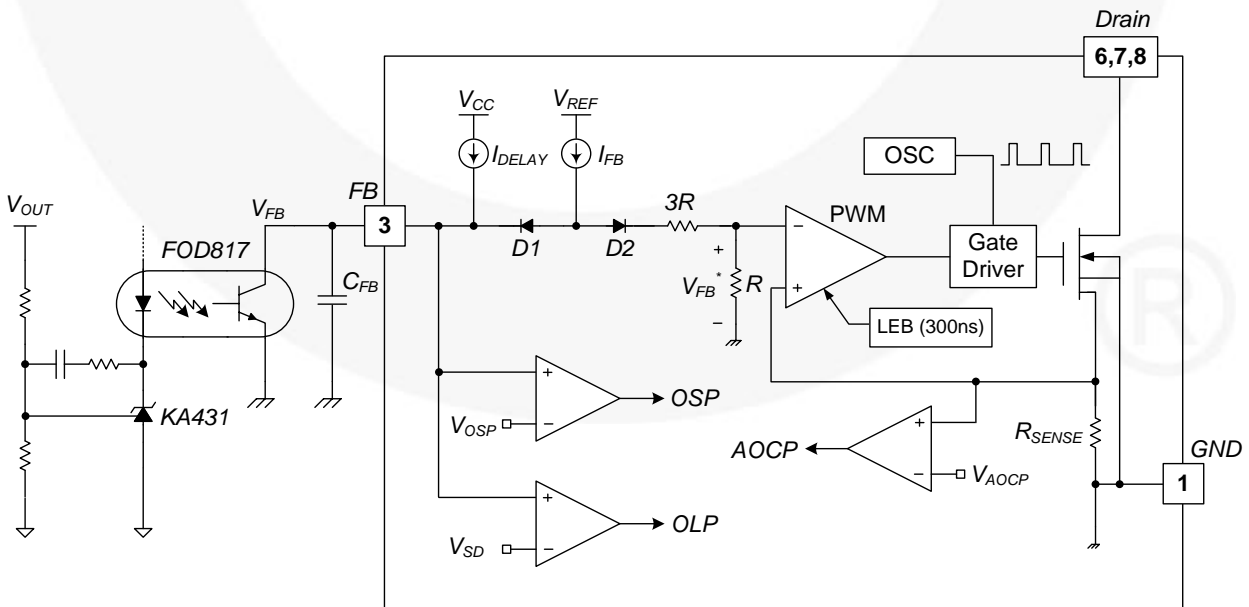

Figure 19. Pulse Width Modulation Circuit
3. Feedback Control: This device employs current-mode control, as shown in Figure 19. An opto-coupler (such as the FOD817) and shunt regulator (such as the KA431) are typically used to implement the feedback network. Comparing the feedback voltage with the voltage across the R_{SENSE} resistor makes it possible to control the switching duty cycle. When the reference pin voltage of the shunt regulator exceeds the internal reference voltage of 2.5 V, the opto-coupler LED current increases, pulling down the feedback voltage and reducing drain current. This typically occurs when the input voltage is increased or the output load is decreased.
3.1 Pulse-by-Pulse Current Limit: Because current-mode control is employed, the peak current through the SenseFET is limited by the inverting input of the PWM comparator (V_{FB}^*), as shown in Figure 19. Assuming that the $90 \mu A$ current source flows only through the internal resistor ($3R + R = 27 k\Omega$), the cathode voltage of diode D2 is about 2.5 V. Since D1 is blocked when the feedback voltage (V_{FB}) exceeds 2.5 V, the maximum voltage of the cathode of D2 is clamped at this voltage. Therefore, the peak value of the current through the SenseFET is limited.